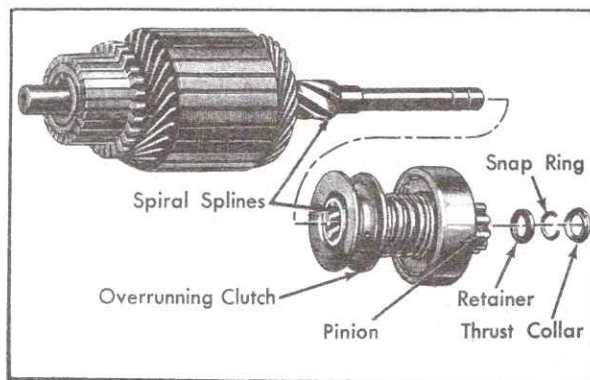

Fig. 6-15 Starter Armature Assembly
- a. Slide thrust collar off end of armature shaft, Fig. 6-15.